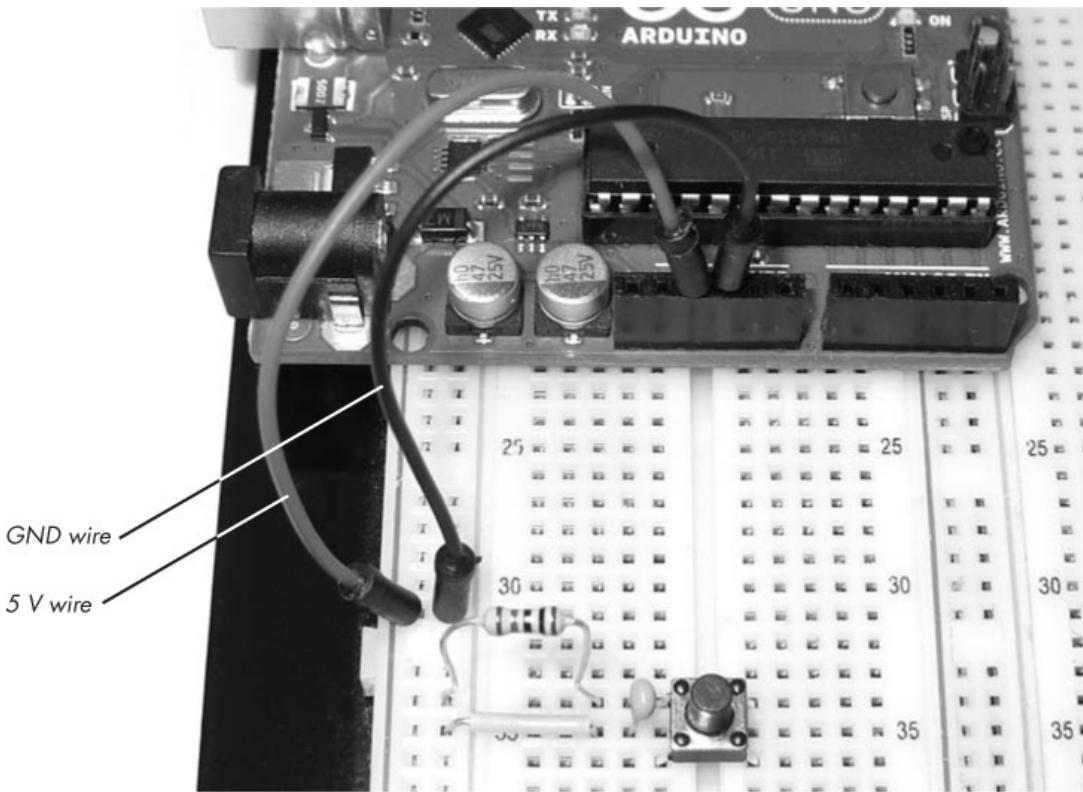

Figure 4-22. The 5 V (red) and GND (black) wires
3. Connect one wire from the Arduino 5 V pin to the leftmost vertical column on the breadboard, and connect another wire from the Arduino GND pin to the vertical row to the right of the 5 V column, as shown in Figure 4-22.